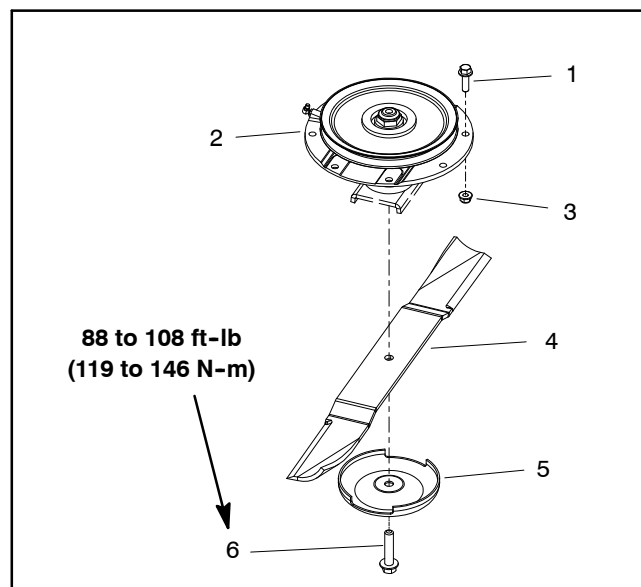

Figure 8
5. Remove cutting blade, anti-scalp cup and blade bolt from spindle to be serviced (Fig. 8).
6. Remove eight (8) flange head screws and flange nuts that secure spindle assembly to deck. Remove spindle assembly from deck.
2. Install cutting blade, anti-scalp cup and blade bolt (Fig. 8). Tighten blade bolt from **88 to 108 ft-lb (119 to 146 N-m)**.